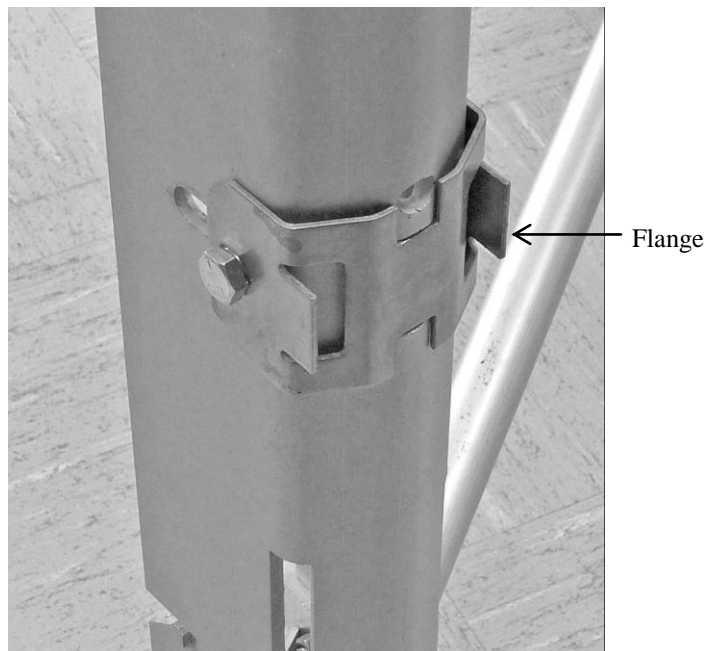

Figure 7-7. The #19124 bracket attached to a CM110 tripod.
(1) For some tripods, the #19124 bracket may not be pre-installed on the tripod at the factory. In this situation, the #19124 bracket and mounting hardware will be shipped with the tripod and will need to be installed as shown in Figure 7-7.
(2) An ENC16/18 cannot be mounted to the leg base.
1. Place the flange of the tripod's bracket into a notch in one of the enclosure's bracket (see Figures 7-7, 7-8, and 7-10).